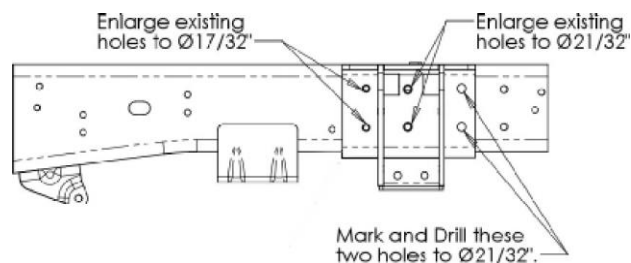
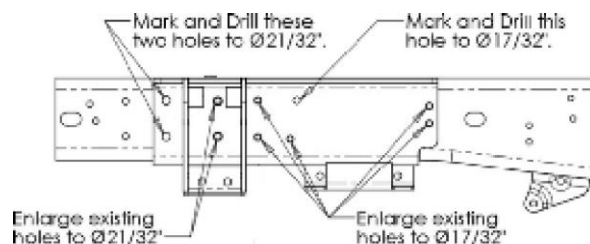

Figure 5. Driver Side Upper Strut Mount Frame Drilling.
Figure 6. Passenger Side Upper Strut Mount Frame Drilling.
16. Drill required holes into frame rails per Figure 5 and Figure 6.